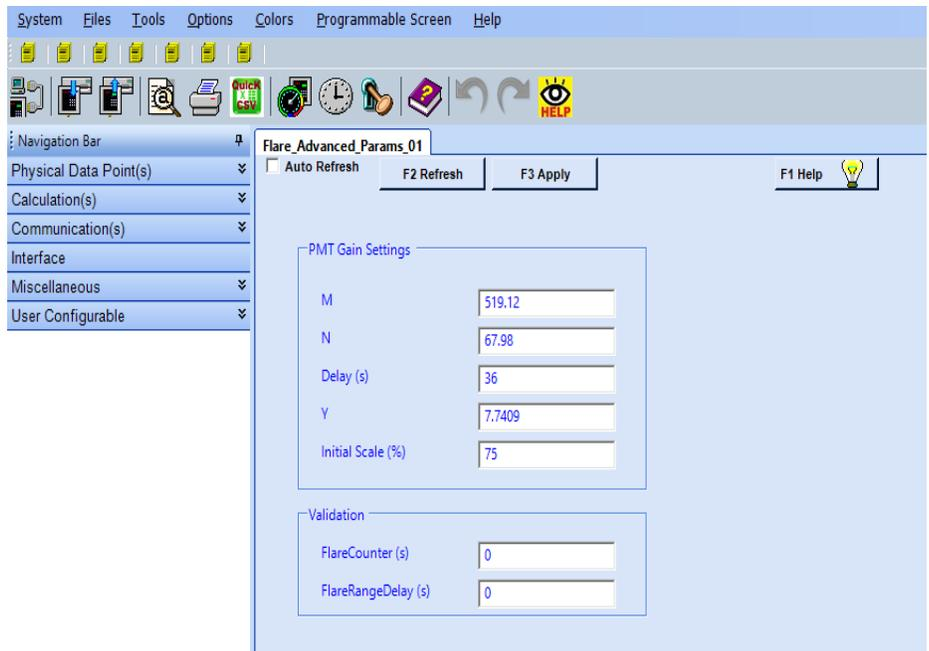

Figure 4-3. Flare Advanced Params XX Pre-Configured Screen
3. Flare_Advanced_Params_XX (Figure 4-3)